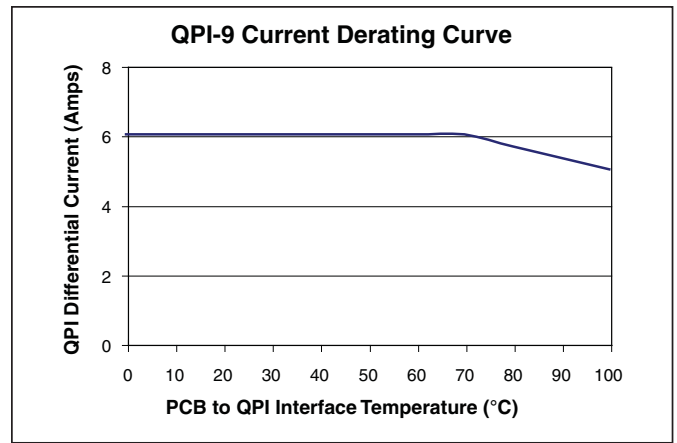

Figure 5 – QPI-9 current derating curve over temperature.
- -40° to +100°C PCB temperature (See Fig. 5)
**Note 3:** Refer to Figure 5 for current derating curve.
The QPI-9's high-temperature rating of 6 amps provides filtering for up to 144 W of power from a 24 V bus with a 70°C PCB temperature. The 1.0" x 1.0" x 0.2" surface mount LGA package provides ease of manufacturing by eliminating thru-hole assembly. The current derating curve, shown in Figure 5, should be used when the PCB temperature that the QPI-9 is mounted to exceeds 70°C.